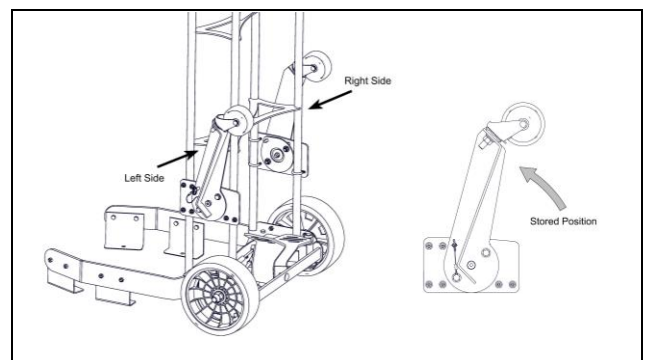

Figure 2
2. Match one side of the TCS-40 Kit with the side of the cart that is facing up, making sure the arm is in the stored position (Figure 2).